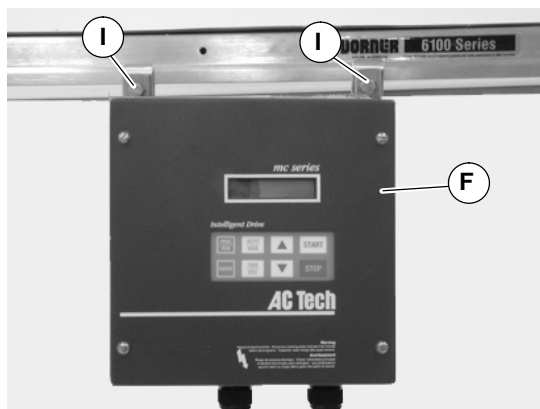

Figure 12
3. Attach controller (F of Figure 12) to conveyor with screws (I).